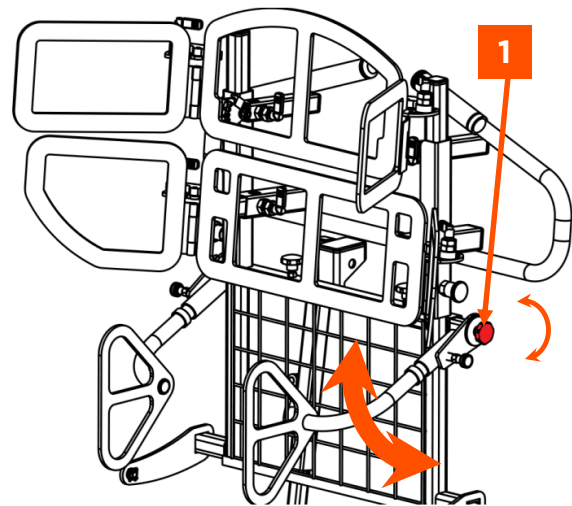

FIGURE 26
2. Angle of the external laterals - turn the thumb screws shown in red (Fig 26, Item 1- there is a second screw hidden from view on the other side of the backrest) to release the external laterals. Move the arm away from the sliding bar and adjust the angle as required. Then locate the arm on to the sliding bar again and tighten the thumb screws.